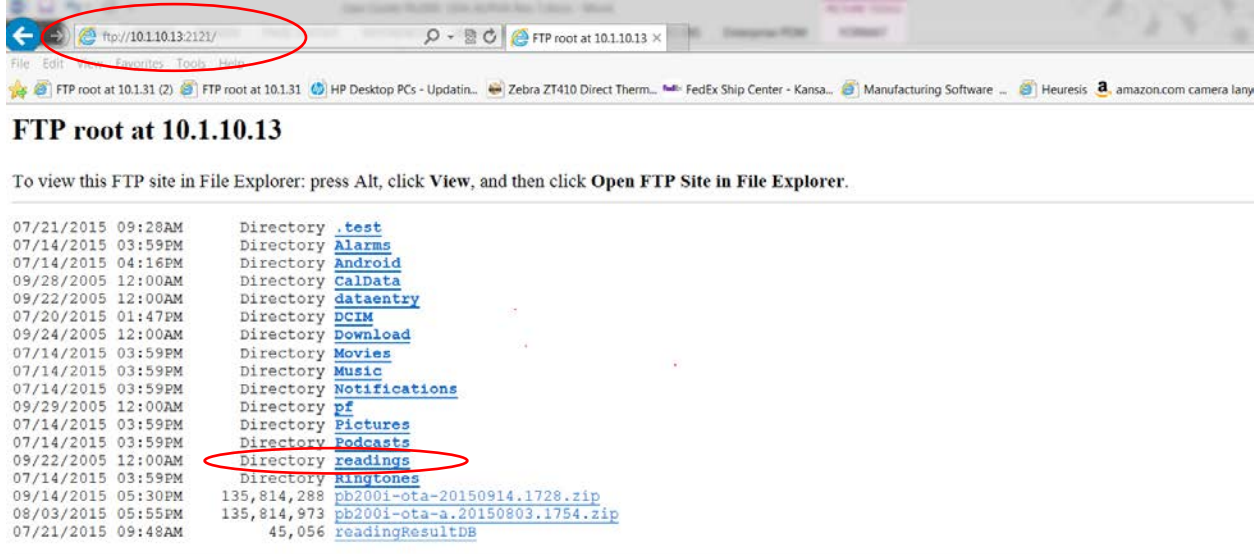

Figure 36
i) Your screen should look like Figure 36. Be sure to bookmark this page in your browser.